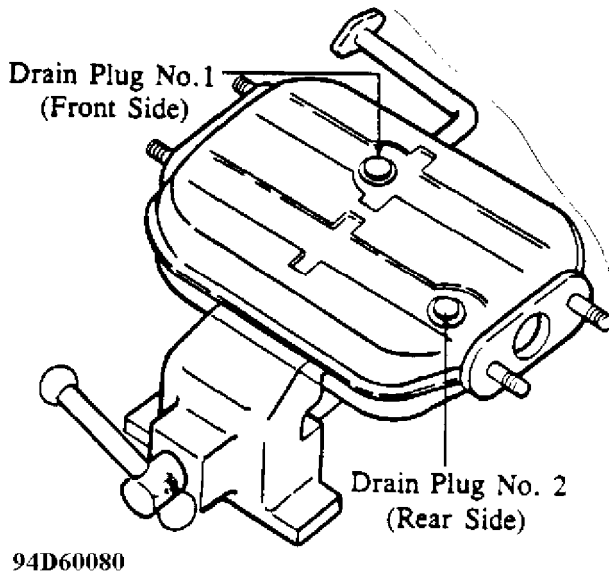

Fig. 14: Location of Drain Plugs No. 1 and 2
1. Remove the drain plug No. 1 and No. 2 of the empty catalytic converter for exchange operation. See Fig. 14.